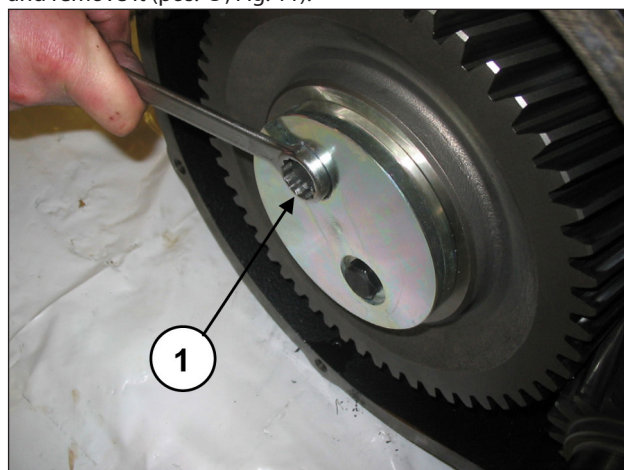
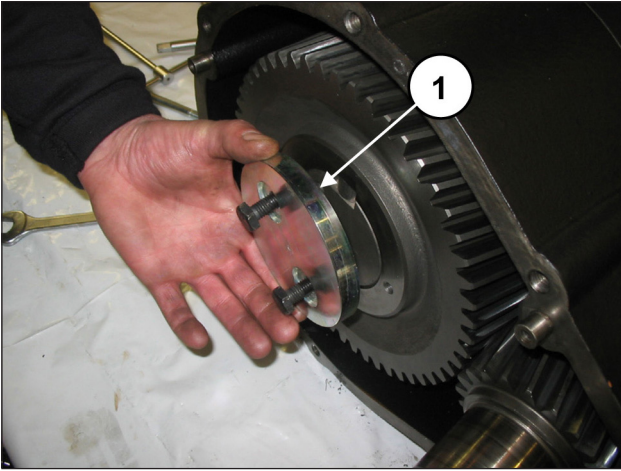

Fig. 10
Fig. 11
Unscrew the screws holding in the ring gear (pos. ①, Fig. 10) and remove it (pos. ①, Fig. 11).